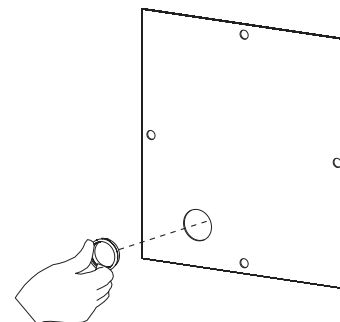

Figure 11
3. Install a plastic bushing into the electrical access panel. See Figure 11.
5. Re-install the junction box into the lower left corner of the firebox cavity using the screws removed in step 2. See Figure 11.